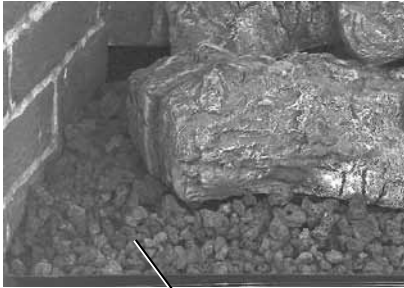

Figure 45
3. **Install decorative volcanic stone** - Sprinkle the decorative volcanic stone in a pleasing pattern (see **Figure 45** on **page 28**). The volcanic stone should be placed directly on top of the firebox bottom, along the slope and to the back at the right and left sides of the burner. Position any ceramic fiber liners before placing the stone. Logs can be positioned after the volcanic stone.